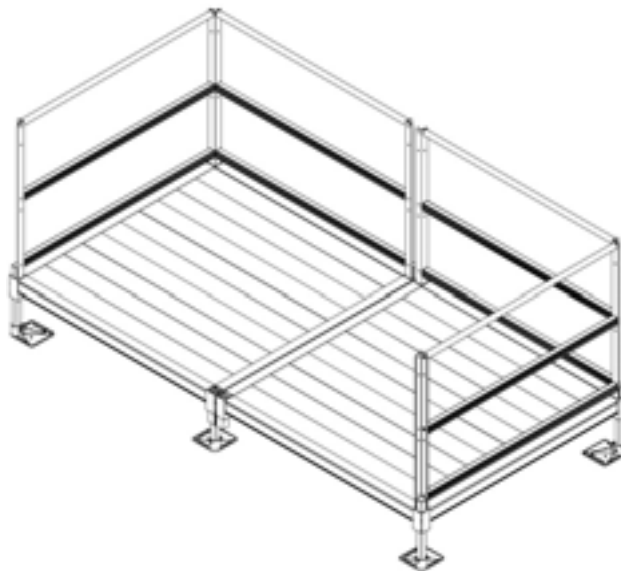

FIG. 2.3
- 2.1.1. There are three basic platform arrangements, though one or more of these arrangements may be used. All three require the same procedure for installation except for FIG. 2.3, which requires an additional CONNECTOR PLATFORM TO PLATFORM.
- 🖐 Platforms configured as a turn back platform (FIG. 2.3) will have six legs to adjust.